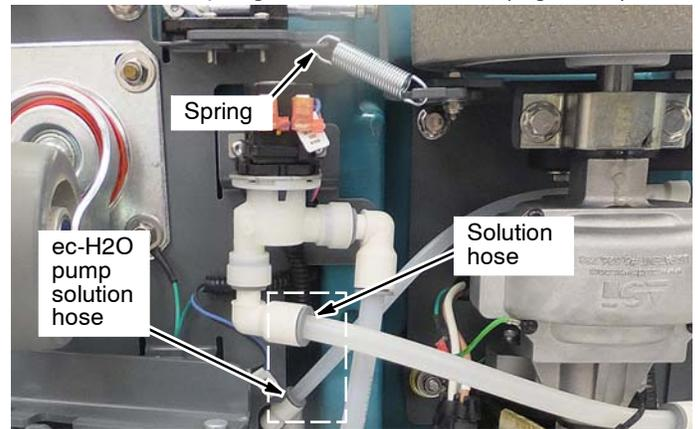

Fig. 11
9. Reconnect spring and solution hoses (Figure 11).